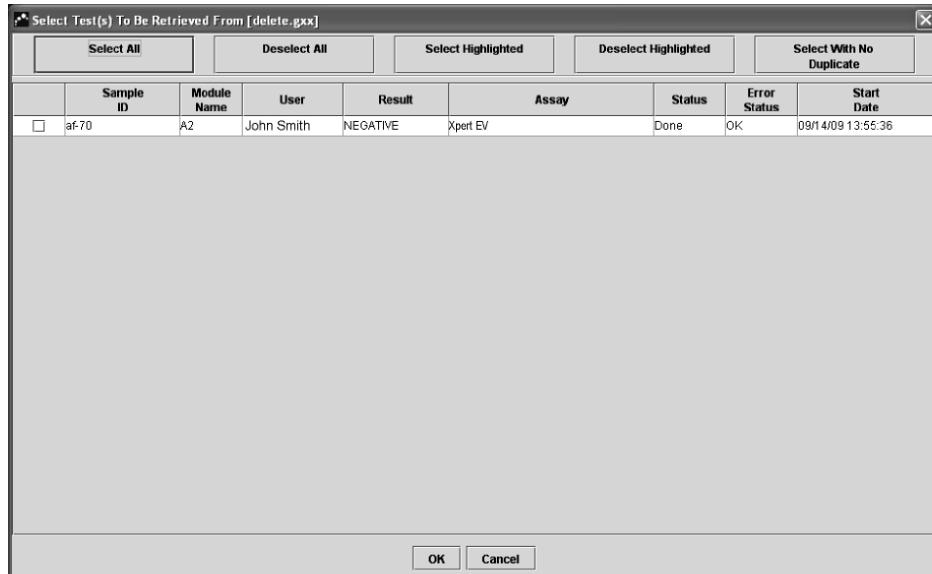

Figure 5-44. Select Test(s) To Be Retrieved dialog box
2. Locate and select the archive (.gxx) file, and then click **Open**. The Select Test(s) To Be Retrieved From dialog box appears (Figure 5-44). The tests that already exist in the current database appear in red text.